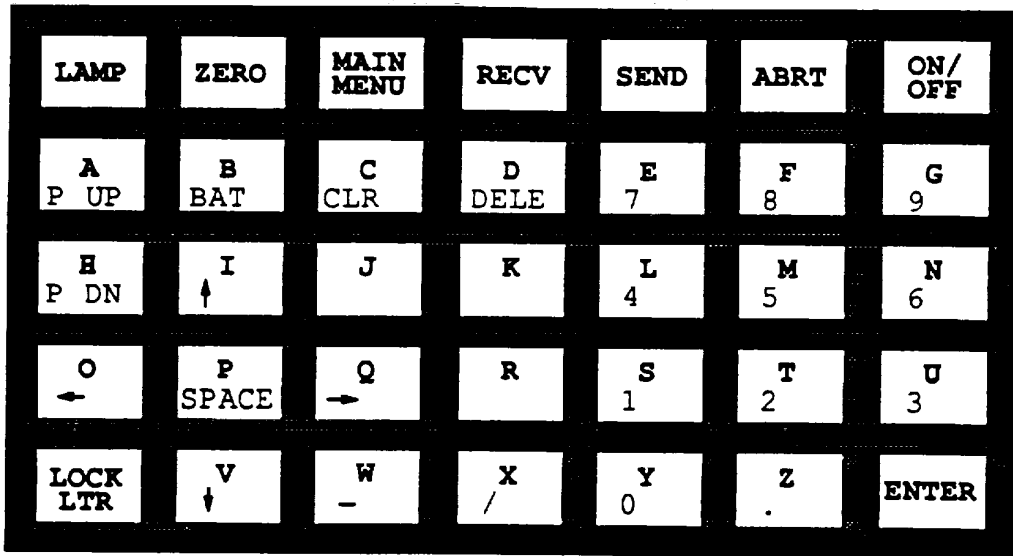

Figure 2-1. ANCD Key Pad
- a. **KEYBOARD.** The ANCD keyboard is a sealed assembly, arranged in a 5" x 7" matrix that is used to provide the operator input. The keyboard contains nine single function and 26 dual function keys as shown in Figure 2-1.